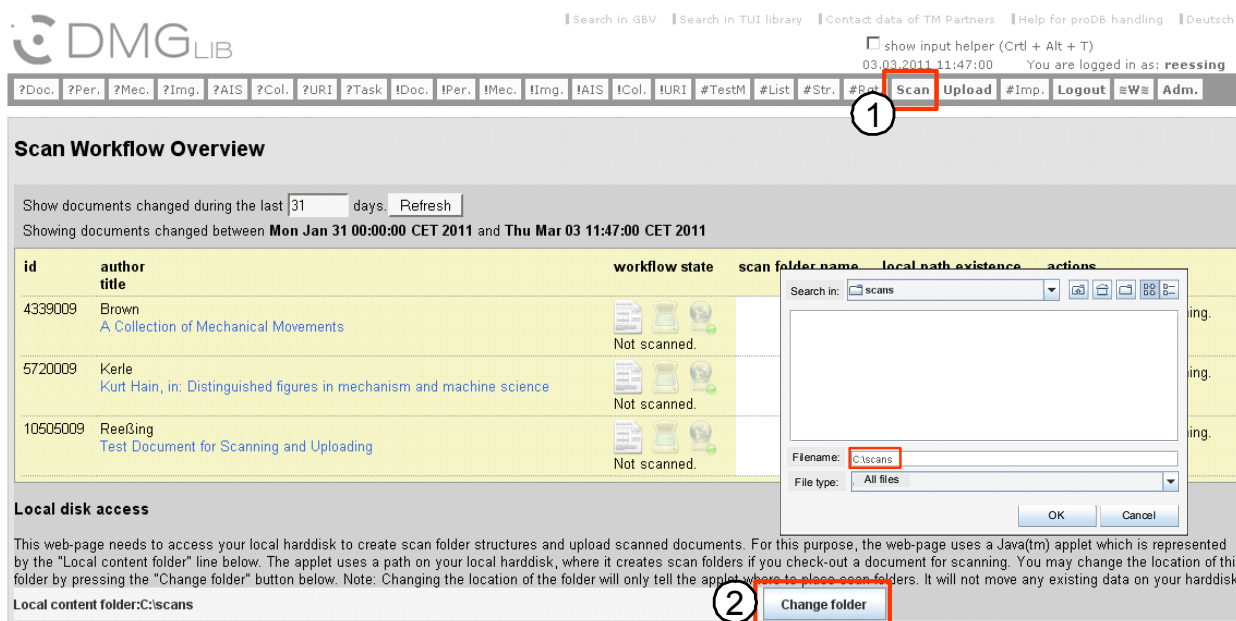

Figure 3 - Configuration of Scan Workflow Overview
- Navigate to the *Scan Workflow Overview* by pressing the **Scan tab button** in the ProDB main menu (Figure 3, Label 1; ProDB: <http://www.dmg-lib.org/dmglib/prodb/login.jsp>).
- **Specify a folder** that will contain scanned content on your local hard disk. For this, press the **Change folder** button (Figure 3, Label 2) and select or create a folder using the standard file open dialog. A good choice would be "c:\scan". The ProDB website will create folders for each scanned document into this base folder. (Please note: You have to specify this path again if you change your PC.)